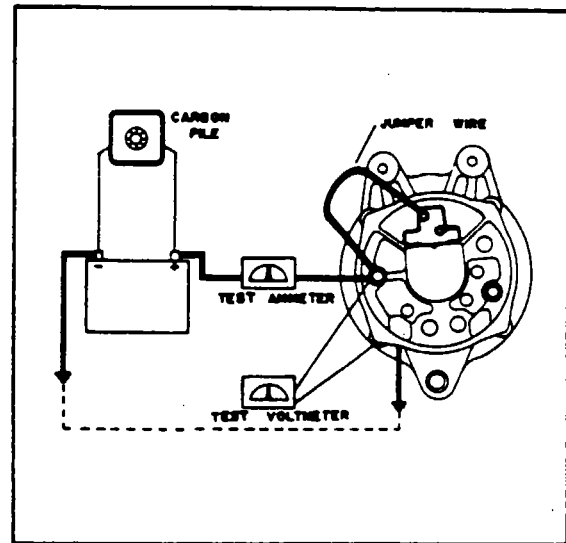

Figure 11-33. Testing Alternator
a. Wiring connections for bench testing the alternator are shown in Figure 11-33. Refer to the specifications given in Paragraph 11-39 for output test figures. Adjust the carbon pile if necessary, to obtain the specified voltage. Alternator not to be run more than 2 minutes for each test.